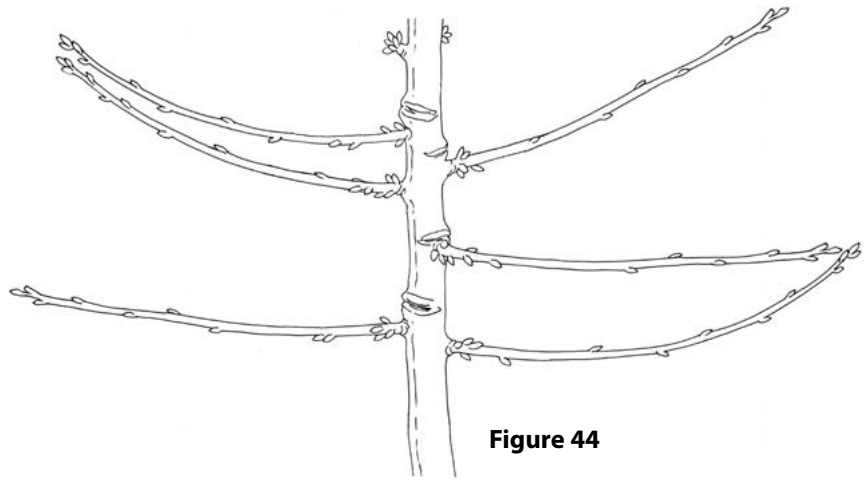
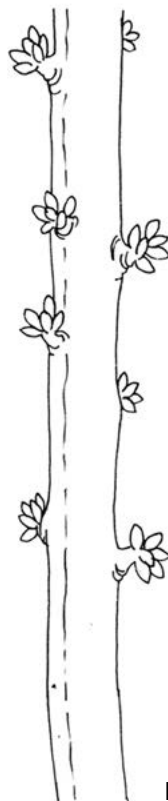

Figure 44
Figure 45
- Figure 44 illustrates the type of desired lateral shoot activation and growth at the end of first year compared to a tree with no bud activation (Figure 45).
Figure 44 illustrates the type of desired lateral shoot activation and growth at the end of first year. Figure 45 illustrates a tree with no bud activation.